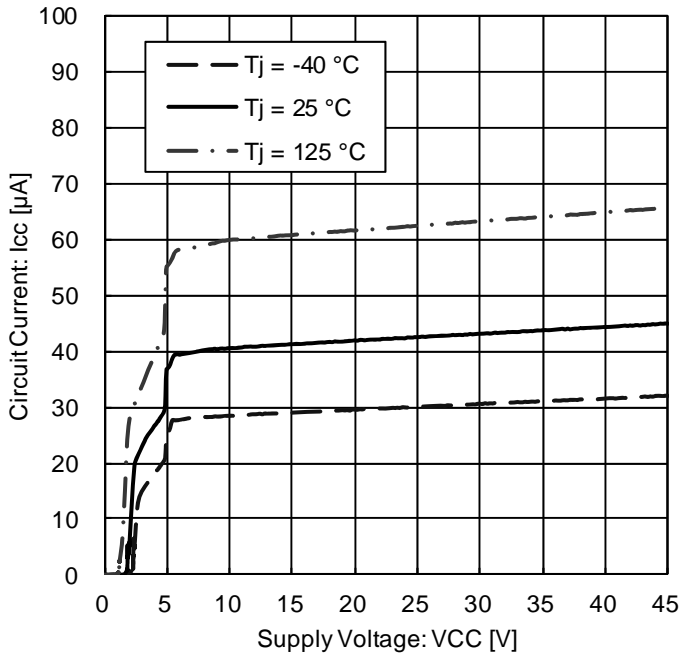

Figure 23. Circuit Current vs. Power Supply Voltage
*Magnified Figure 23. at low supply voltage